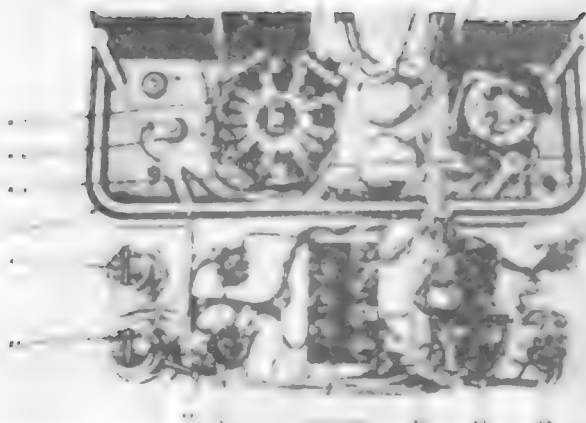

*Figure 13. Electronic Multimeter TS-505/U, rear view.*
salvaged if it is decided that the equipment will not be repaired (figs. 13, 14, and 15).
a. The terminal board (fig. 13) can be removed by unfastening the four studs which hold it in place. Remove defective components on the terminal board and place the board in stock for re-use.